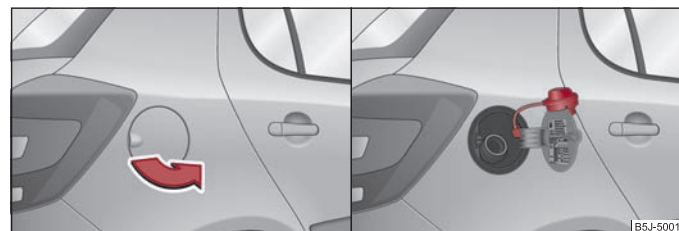

Fig. 11 Right rear side of the vehicle: Fuel filler flap / fuel filler flap with cap unscrewed
- Open the fuel filler flap with the hand ⇒ fig. 11 - left.
- Unscrew the fuel filler cap anti-clockwise and place the fuel filler cap from above on the fuel filler flap ⇒ fig. 11 - right.